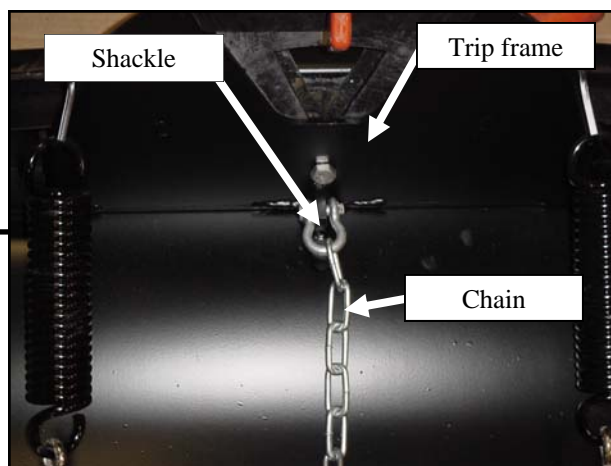

Fig. 8.1—Chain - Shackle Installation
- 8.1 Per figure 8.1, insert the shackle through one end of the lift chain. Insert the clevis pin on the shackle into the lifting hole on the trip frame. Close the shackle by threading the clevis pin into the threads on the opposite side of the shackle. Tighten with an adjustable wrench or pliers.